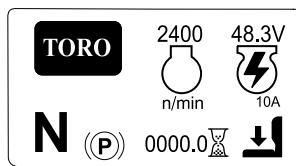

Figure 20
- **Main information screen (Figure 20):** shows current machine information while the key is in the ON position.